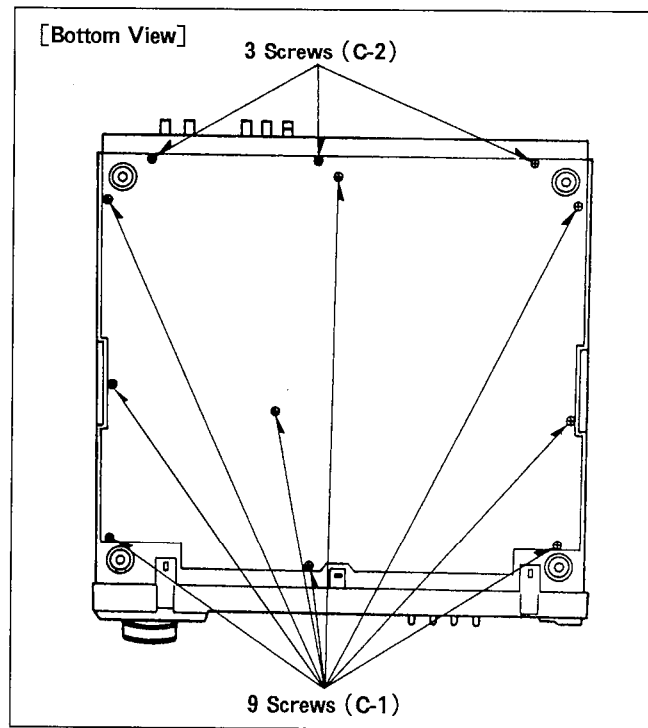

Figure D4
1. Unscrew the 9 screws (C-1) and 3 screws (C-2). (Figure D4)